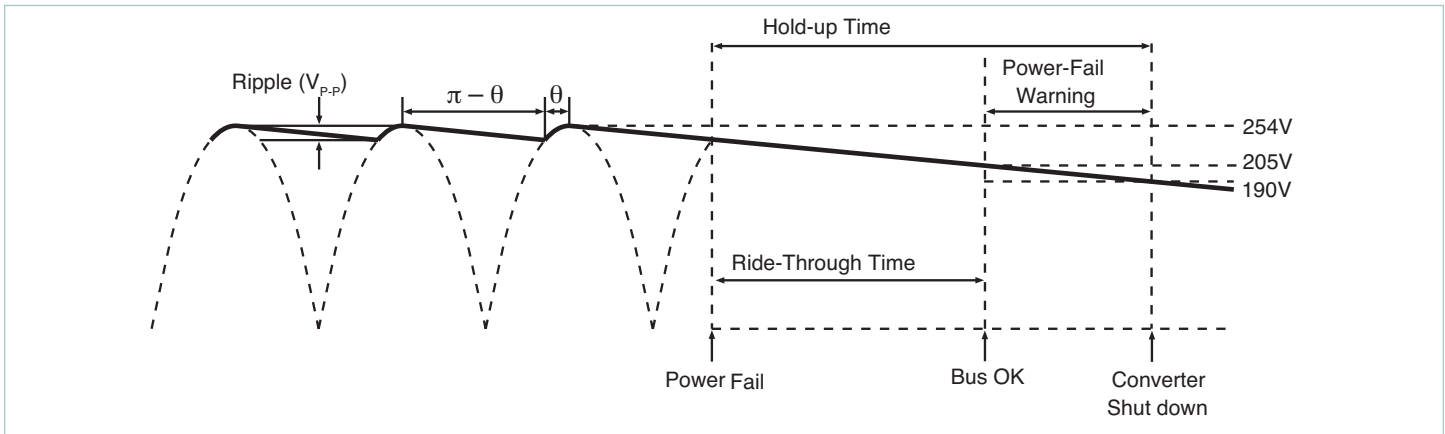
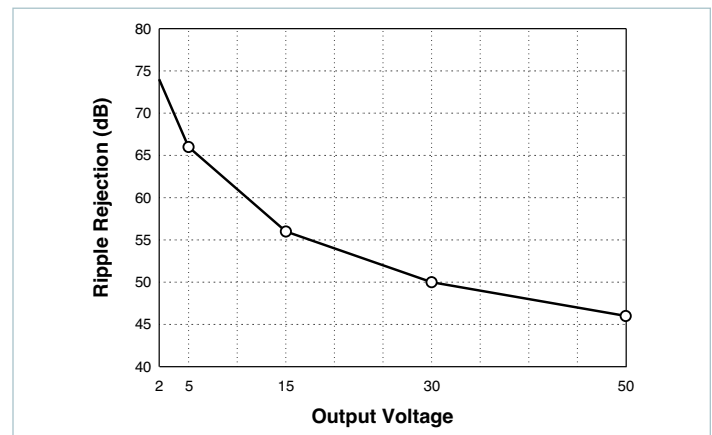

Figure 7.7 — General timing diagram of bus voltage following interruption of the AC mains
Figure 7.11 — Converter ripple rejection vs. output voltage (typical)
Hold-up Capacitors: Hold-up capacitor values should be determined according to output bus voltage ripple, power-fail hold-up time, and ride-through time. (Figure 7.7) Many applications require the power supply to maintain output regulation during a momentary power failure of specified duration, i.e., the converters must hold up or ride through such an event while maintaining undisturbed output voltage regulation. Similarly, many of these same systems require notification of an impending power failure to allow time to perform an orderly shutdown.
The power-fail warning time (Δt) is defined as the interval between (BOK) and converter shutdown (EN) as illustrated in Figure 7.7. The Bus OK and Enable thresholds are 205V and 190V, respectively. A simplified relationship between power fail warning time, operating power, and bus capacitance is obtained by inserting these constants:
For example, a converter whose output is 15V and nominal input is 300V will provide typically 56dB ripple rejection, i.e., 10V_{p-p} of input ripple will produce 15mV_{p-p} of output ripple. (Figure 7.11) Equation 3 is again used to determine the required capacitance. In this case, V_1 and V_2 are the instantaneous values of bus voltage at the peaks and valleys (Figure 7.7) of the ripple, respectively. The capacitors must hold up the bus voltage for the time interval (Δt) between peaks of the rectified line as given by:
(Figure 7.7)
Converter: Figure 7.11 is used to determine the ripple rejection of the DC-DC converter and indicates a ripple rejection of approximately 60dB for a 12V output. If the ripple on the bus voltage is 12V_{AC} and the ripple rejection of the converter is 60dB, the output ripple of the converter due to ripple on its input (primarily 120Hz) will be 12mV_{p-p}.